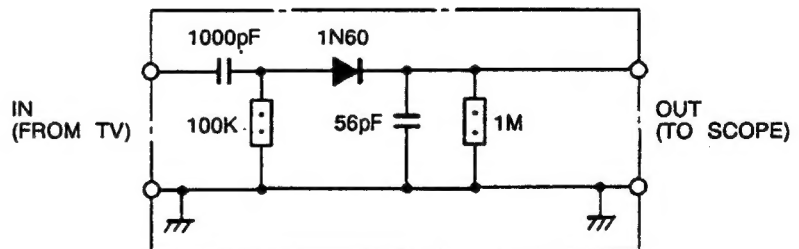

Figure 6. Detector Diagram
- OSCILLOSCOPE**..... Connect through the detector (See figure 6.) to the emitter of Q102.